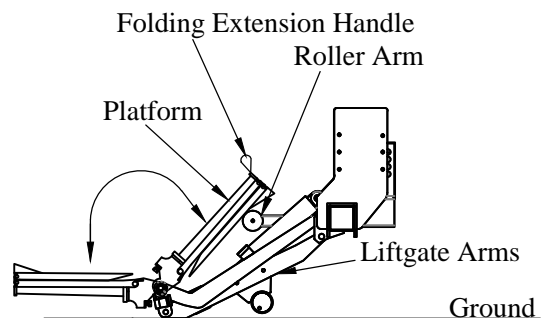

Figure 8: Step 15.
13. With the liftgate arms touching the ground, stand to the side of the platform, and fold the platform closed until it rests on the roller arm (Figure 8).